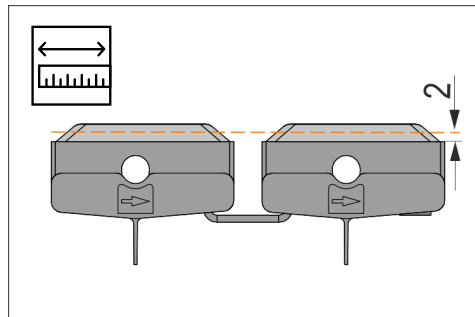
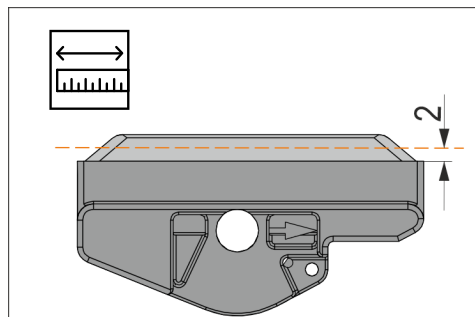

Fig. 87: PE double current collector wear limit
Fig. 88: PE single current collector wear limit
- PE current collector: 2 mm (see *Fig. 87* and *Fig. 88*)
- PE current collector wear limit: 2 mm (see *Fig. 87* and *Fig. 88*)